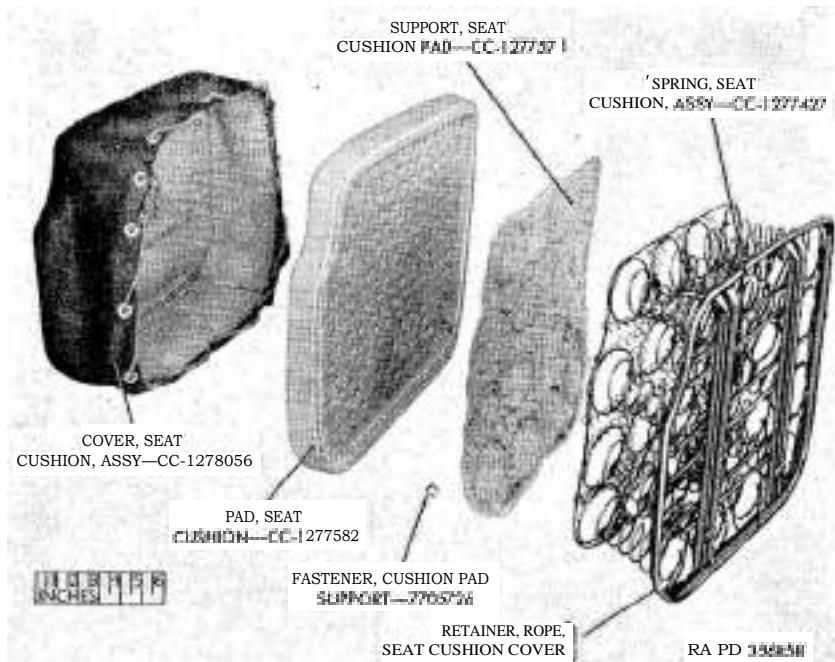

Figure 185. Seat cushion assembly—exploded view.
c. *Remove Seat Cushion Cover Assembly, Seat Cushion Pad, and Seat Cushion Pad Support From Seat Cushion Spring Assembly* (fig. 185).
- (1) If inspection (par. 225a) reveals that either the seat cushion cover assembly, seat cushion pad, or seat cushion spring assembly requires replacement, untie the rope, which fastens the cushion cover assembly to the spring assembly, and remove cover. Remove cushion pad.
- (2) Remove cushion pad support fasteners, which attach seat cushion pad support to the spring assembly, and remove support.
e. *Remove Seat Back Cushion Cover Assembly, Seat Back Cushion Pad, and Seat Back Cushion Pad Support From Seat Back Cushion Spring Assembly* (fig. 185).
- (1) Untie rope, which attaches the seat back cushion cover assembly to the spring assembly, and remove cover. Remove seat back cushion pad.
- (2) Remove cushion pad support fasteners, which attach seat cushion pad support to the spring assembly and remove support.
- (1) Inspect seat cushion assembly (A) for worn or torn cover (fig. 185). If either of these conditions exist, replace cover (pars. 224c and 226c).
- (2) Inspect seat cushion pad (fig. 185) for deterioration or other visible damage. Replace pad if not in good condition (pars. 224c and 226c).
- (3) Inspect seat cushion pad support (*fig. 185*) for damage and wear. If either of these conditions exist, replace support (pars. 224c and 226c).
- (4) Inspect seat cushion spring assembly (*fig. 185*) for sagged, broken, or misplaced springs or broken spot welds. If any of these conditions exist, replace cushion spring assembly (pars. 224c and 226c).
- (1) Position right seat regulator assembly (L), with hinge toward front, on seat board. Install three 5/16-inch external internal dished lock washers (G) and 5/16-24NF nuts (F). Tighten nuts.
- (2) **Install regulator control rod (K) on right regulator assembly.**
- (3) Attach left regulator assembly (M), with hinge toward front, to regulator control rod (K). Position left regulator assembly on seat board. Install three 5/16-inch external internal dished lock washers (G) and 5/16-24NF nuts (F). Tighten nuts.
c. Install Seat Cushion Support, Seat Cushion Pad and Seat Cushion Pad Cover Assembly on Seat Cushion Spring Assembly (fig. 185).
- (1) Place seat cushion pad support on seat cushion spring assembly and attach support to outside frame of spring assembly with cushion pad support fasteners. The fasteners can be inserted through the support and crimped around spring assembly frame with pliers.
- (2) Place seat cushion pad on seat cushion spring assembly.
- (3) Place seat cushion cover assembly over pad and spring assembly and fasten cover to bottom of spring assembly with rope. Place rope under seat cushion cover rope retainers (fig. 185), which are a part of the spring assembly. Tighten rope so that cover is a snug fit over the pad and spring assembly and tie rope.
d. Install Seat Back Cushion Pad Support, Seat Back Cushion Pad, and Seat Back Cushion Cover Assembly on Seat Back Cushion Spring Assembly (fig. 185) .
- (1) Place seat back cushion pad support on seat back cushion spring assembly and attach pad to outside frame of spring assembly with cushion pad support fasteners. Fasteners can be inserted through support pad and crimped around the spring assembly frame with pliers. Place seat back cushion pad on spring assembly.
- (2) Place seat back cushion cover assembly over pad and spring assembly. Loop rope around seat back cushion cover rope retainers, which are a part of the spring assembly. Tighten rope until cover is a snug fit on spring assembly and tie rope,